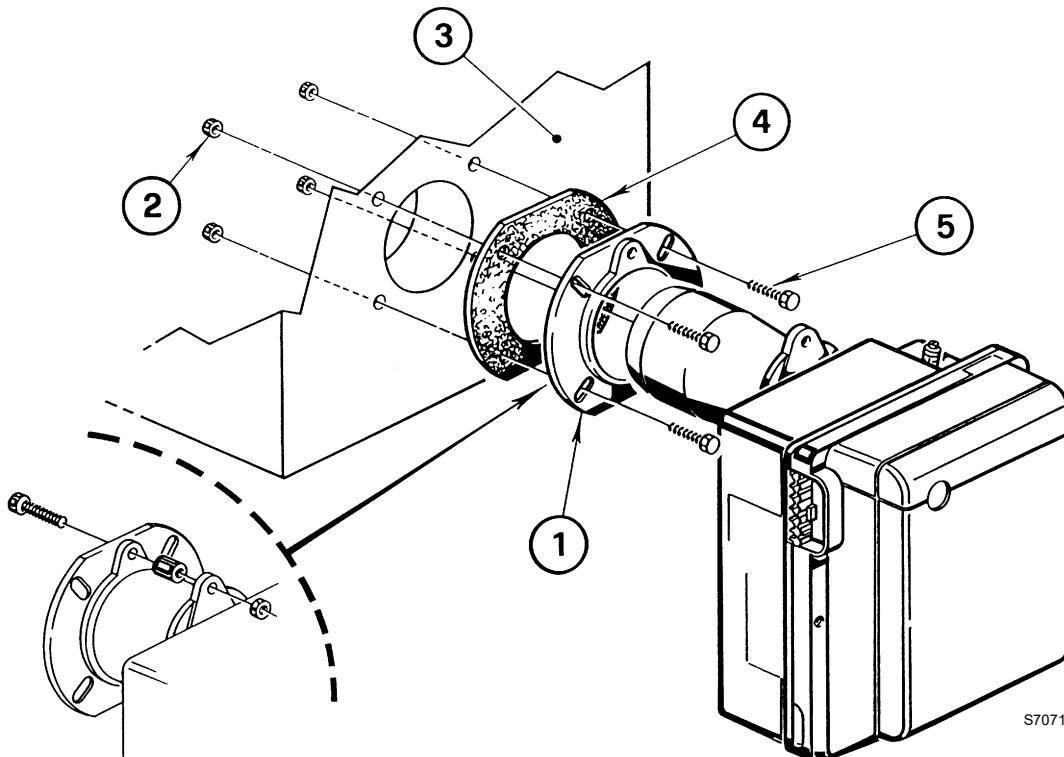

Fig. 9
- put on the flange 1)(Fig. 9) the screw 5) and the two nuts 2).
- To the door of the boiler 3)(Fig. 9) fix the flange 1) using the screws 5) and (if necessary) the nuts 2) placing the insulating gasket 4)(Fig. 9) in-between.